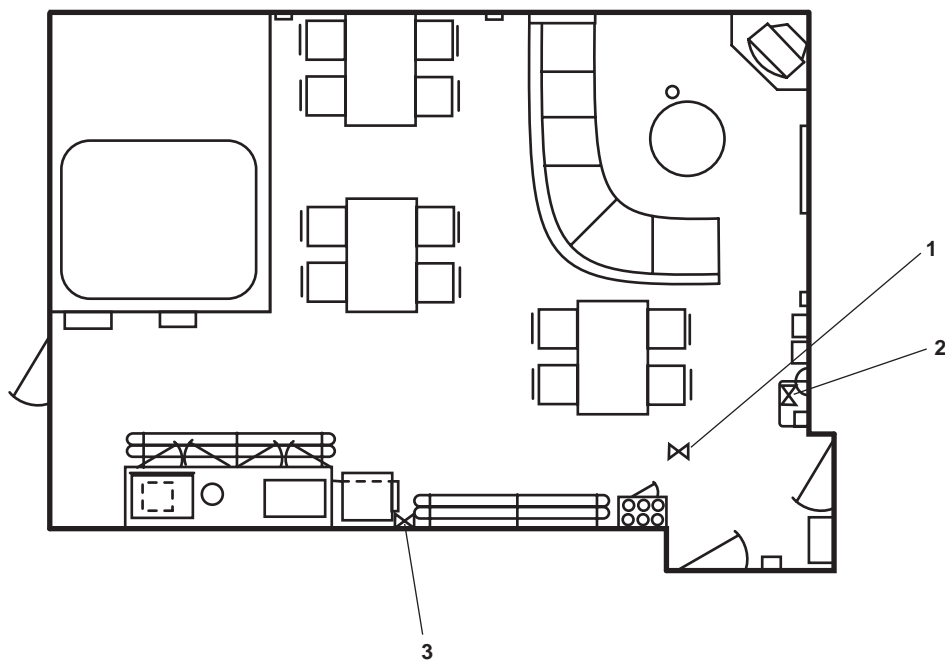

Figure 10. Crew's Mess Valve Locations
- (1) PW-25, C.W. TO W.C. (figure 10, item 1)
- (2) PW-67 (figure 10, item 2), supply to drinking fountain
- (3) PW-93, C.W. TO ICE MAKER (figure 10, item 3)